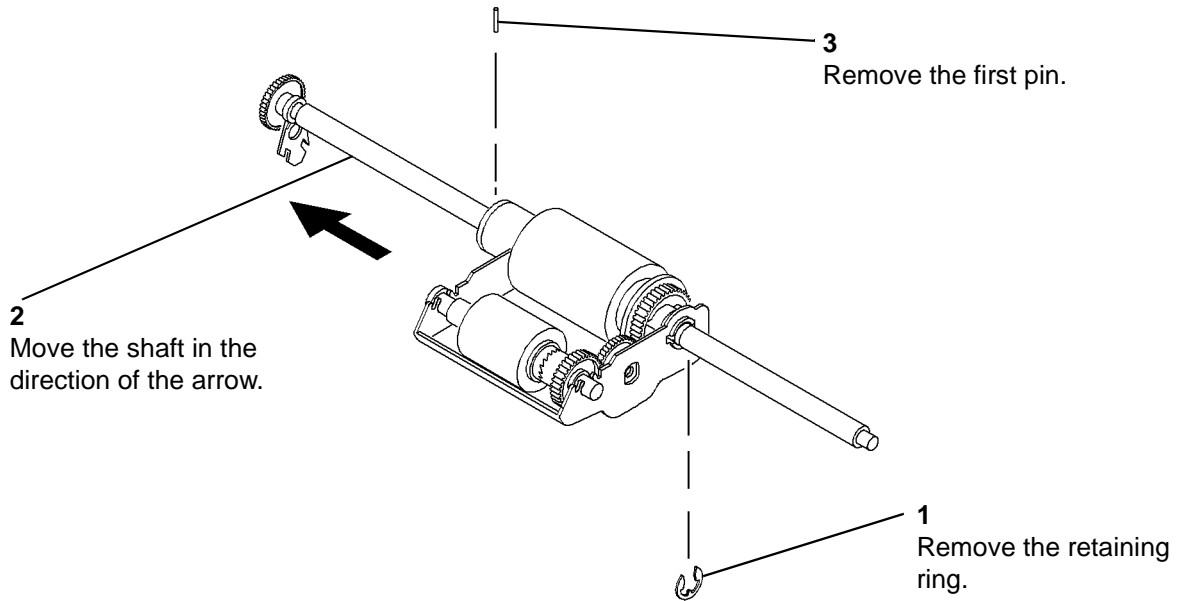

Figure 1 First pin
2. Remove the first pin, Figure 1.